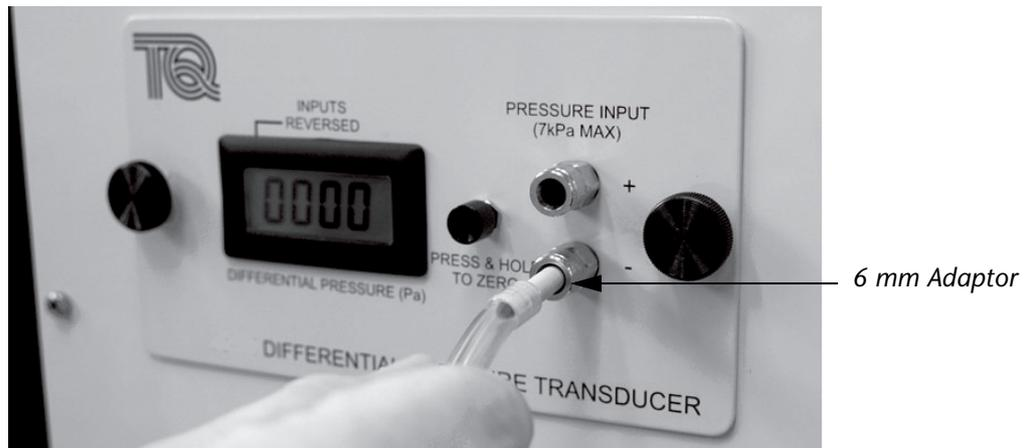

Figure 6 Fit the 6 mm adaptors to your pipework, then insert the adaptors into the sockets
- Two 6 mm adaptors are supplied with the AFA5 module. Fit these adaptors to the ends of your pipework, then insert the adaptors into the pressure sockets of the AFA5 module (see Figure 6).